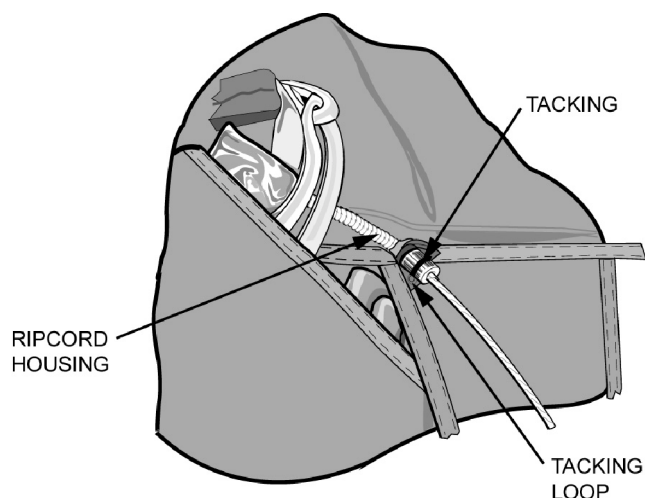

Figure 1. Tacking Ripcord Housing
a. Tack using Tape, Lacing & Tying 12-in. long, tack ripcord housing end to tack loop. Ensure ferrule is even with tack loop edge, tie through tack loop and around housing using three turns, single, tied with a surgeon's knot, followed by a square knot. Trim off excess (Figures 1 and 2).